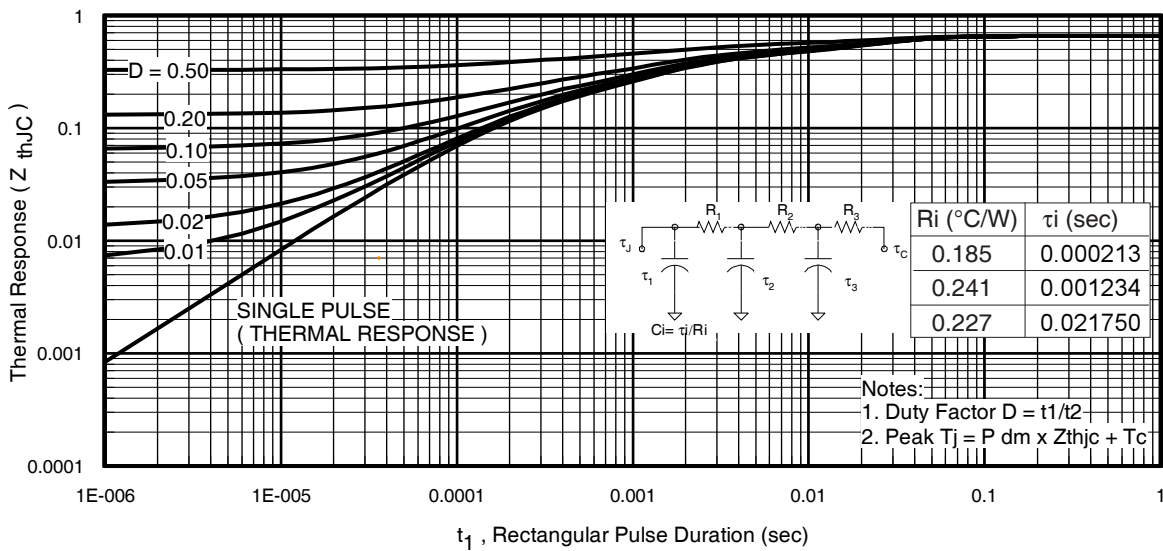

Fig 11. Maximum Effective Transient Thermal Impedance, Junction-to-Case
- ① Repetitive rating; pulse width limited by max. junction temperature. (See fig. 11).
- ② Limited by T_{Jmax}, starting T_J = 25°C,
$Z_{thJC}(D, t_{av})$ = Transient thermal resistance, see figure 11)